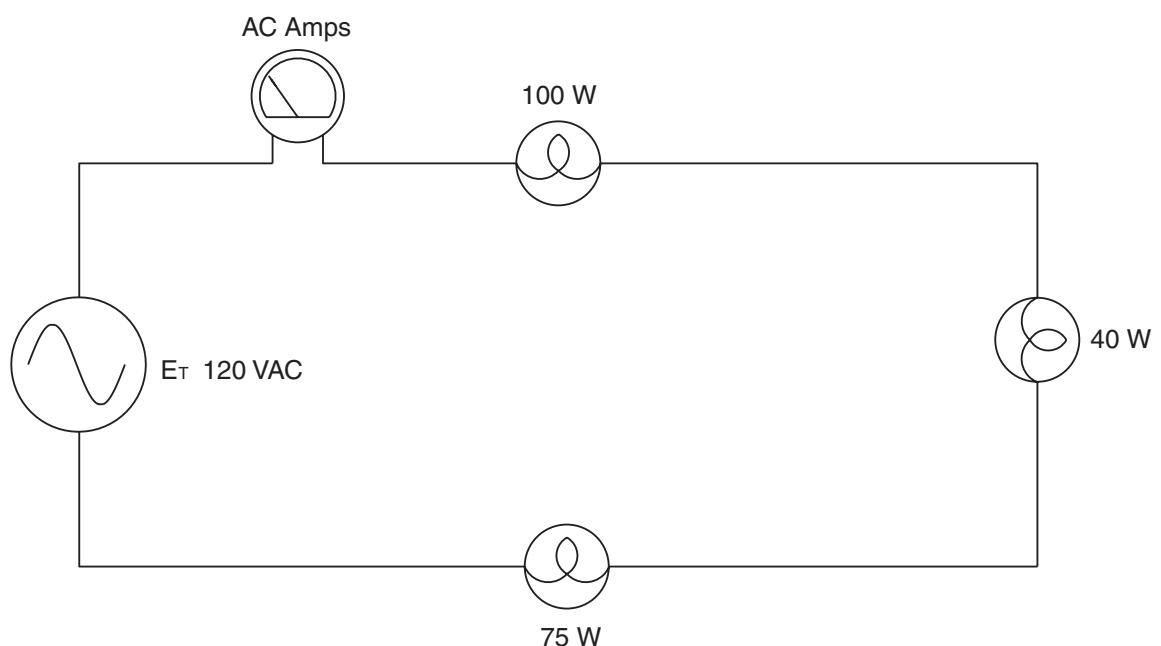

Figure 3-4 Connecting the first series circuit.
1. Connect the circuit shown in Figure 3-4.